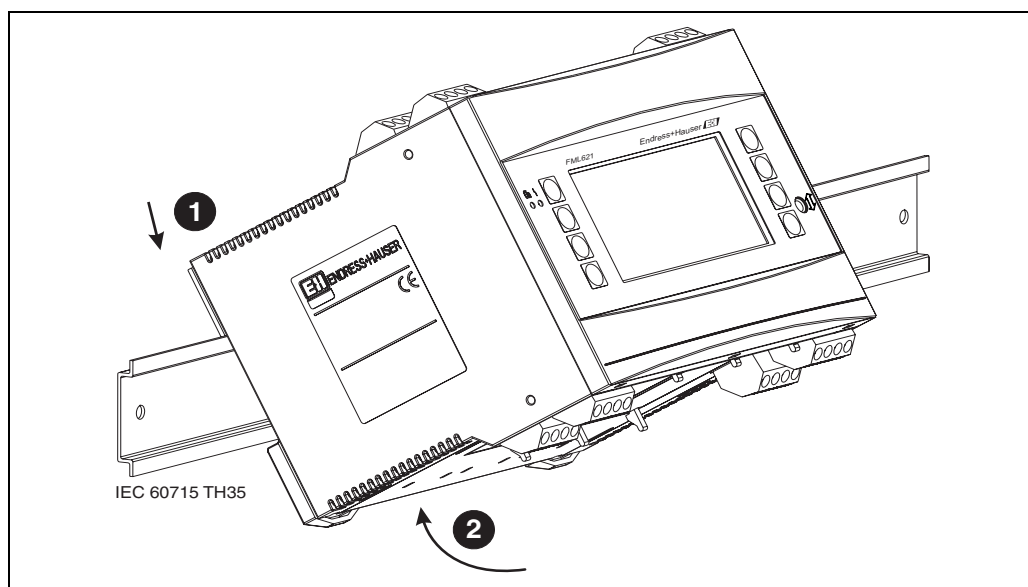

Fig. 2: Mounting device on top-hat rail
To fix the device to the top-hat rail, first hang it on the top-hat rail. Press down gently to engage the lower top-hat rail clamp. (see Fig. 2, item 1 and 2)